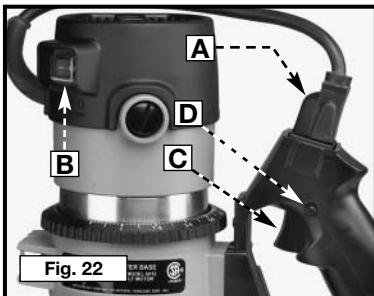

Fig. 22
Check to see that the motor unit power cord (A) Fig. 22 is plugged into the handle, and that the switch (B) on the motor is set to the “ON” position. The starting and stopping of the motor is then controlled by pressing and releasing the trigger switch (C) Fig. 20 in the handle of the base.
To allow the tool to run without continually pressing the trigger (C) Fig. 22, press the trigger (C) into the handle and engage the switch locking button (D) on the side of the handle. While holding the button in, slowly release the trigger. To stop the tool, squeeze the trigger into the handle and release.